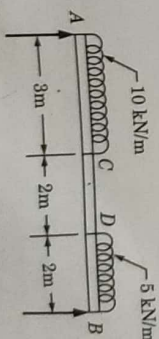

Fig. P. 25.9
- 25.9. A simply supported beam of length 7 m is carrying uniformly distributed load as shown in Fig. P. 25.9. Draw the shear force and bending moment diagrams for the beam. [ $F_{\max} = +25 \text{ kN}$ ,  $M_{\max} = 31.25$ ]